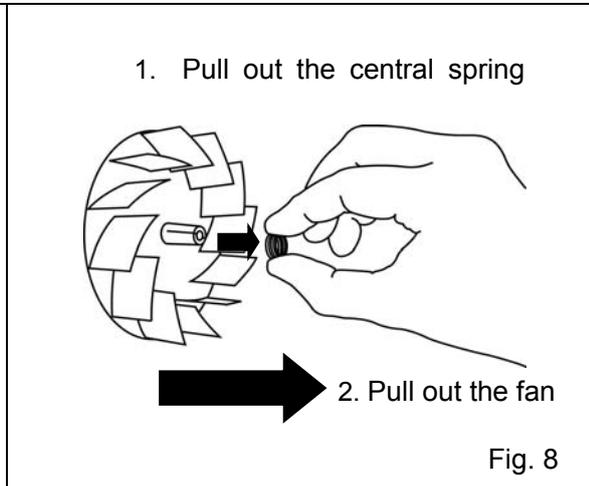

Fig. 8
9. Remove the fan by pulling out the central spring and then by pulling out the fan. (Fig. 8)